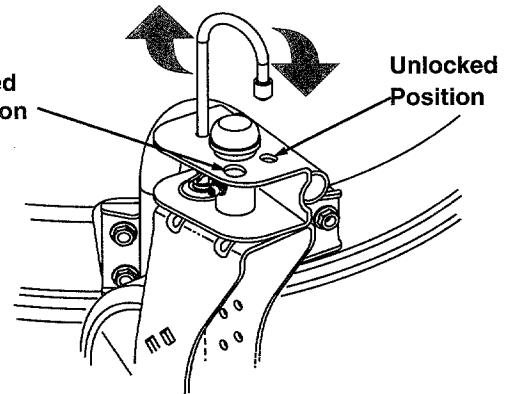

Figure 8
- Push primer three times. See Figure 8. Wait about two seconds between each push. In cold weather around 55° F or below, prime five times. **Do not prime to restart a warm engine** after a short shutdown.
- To lock caster:** Lift and place the lock pin in the larger hole on each caster. See Figure 8.
- To unlock caster:** Lift and place the lock pin in the smaller hole to allow casters to rotate freely. See Figure 8.